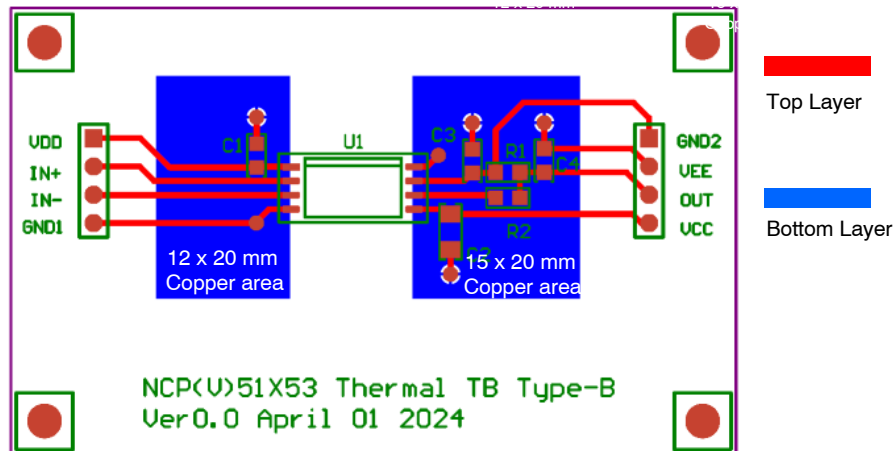

Figure 5. Reference Layout for the Type-B
8. As specified for a reference layout shown in Figure 5. The DUT is mounted on a 65 x 40 x 1.6 mm FR4 substrate with an additional heat spreading copper of 240 mm²/300 mm² (Primary/Secondary). The copper thickness is 1oz and test conditions is under natural convection or zero air flow.